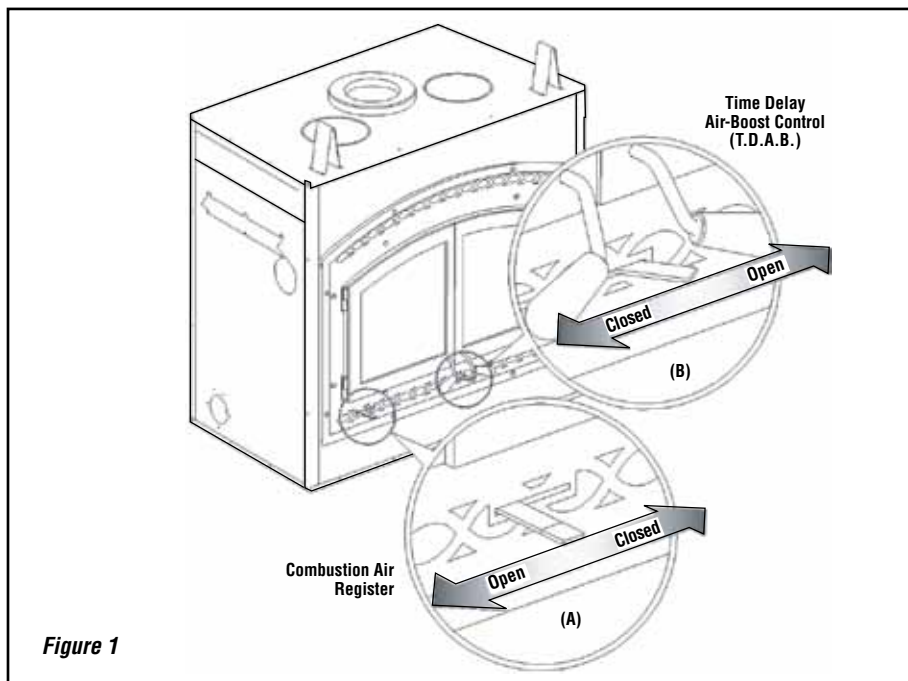

Figure 1
The combustion air control should be opened before opening the doors to minimize the possibility of back draft coming into the room (Figure 1-A) More details are available in *Refueling For Best Performance* on Page 5.
The register gradually reduces the amount of air injected, allowing for a better start of the fire, whatever the conditions (See sections *Building a Fire* and *Refueling For Best Performance* for proper sequence of operation). This allows you to start the fire, set the primary air control to the desired burn level and the fireplace will automatically adjust itself to that level once the fire is fully established (Figure 1-B).
- Completely open the air control level and the T.D.A.B. (Time Delay Air Boost) level. See *Figure 1*.